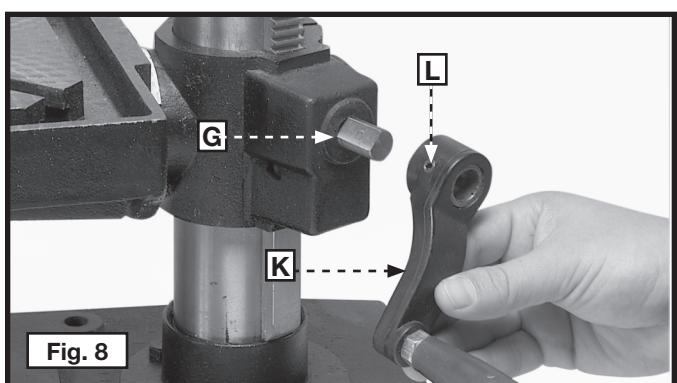

Fig. 8
- Attach the table adjusting handle (K) Fig. 8 to the worm gear shaft (G). Tighten the screw (L) against the flat of the shaft.